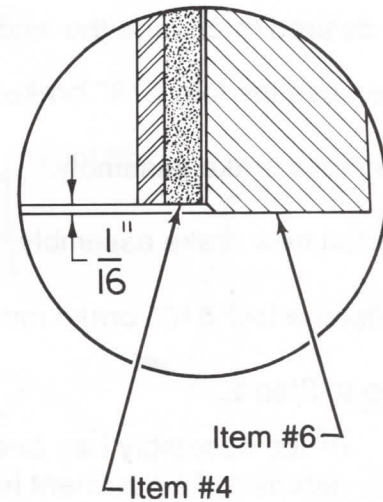

Fig. 29
9. Press drum on shaft until chamfer on inside of drum has cleared brake shoes. This should give shoes full contact on drum, Fig. 29.